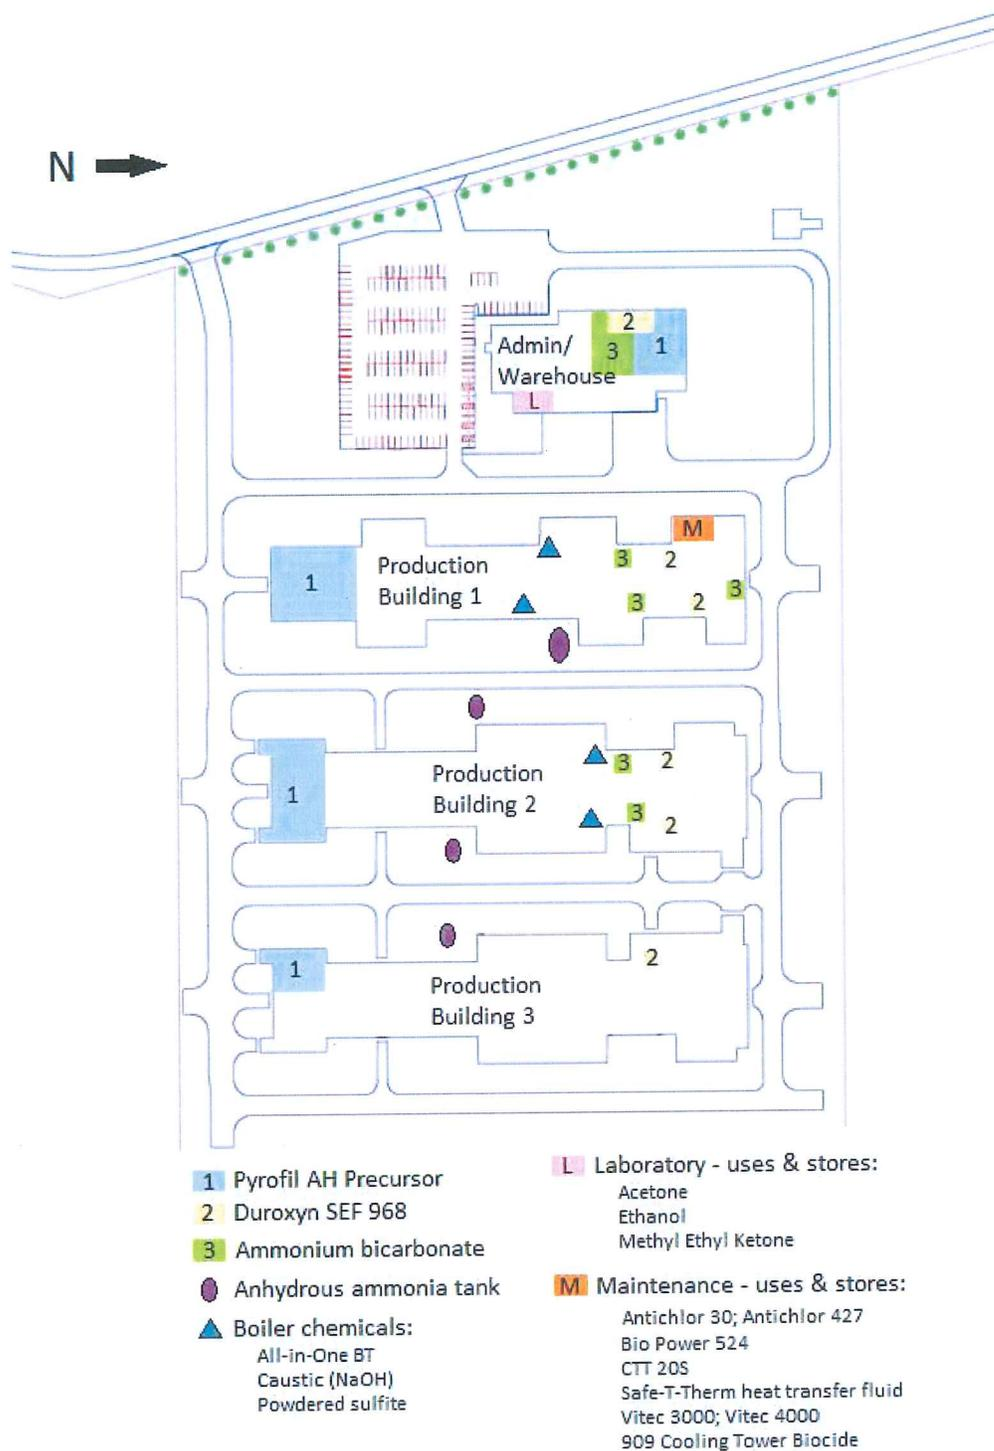

Figure.2 Locations of hazardous material storage and usage areas throughout the SGL ACF facility
4. The SGL ACF facility processes polyacrylonitrile to produce automotive carbon fibers. Epoxy and ammonium bicarbonate solutions are used during this process. The off gasses that are created during the carbon fiber manufacturing process are controlled by air quality permits. Other chemicals are stored and used throughout the plant for production, maintenance, laboratory, and other necessary operations. An inventory of all chemicals that are used, stored, and produced at the SGL ACF facility is maintained on SiteHawk, an online MSDS repository (accessible within the company main drive at Main\ShareAll\SiteHawk). Team members have 24/7 access to the MSDSs. See Table.1 for a list of normal quantities of chemicals maintained on the premises. Figure.2 shows a facility map indicating the storage and usage locations of each chemical found in Table.1.